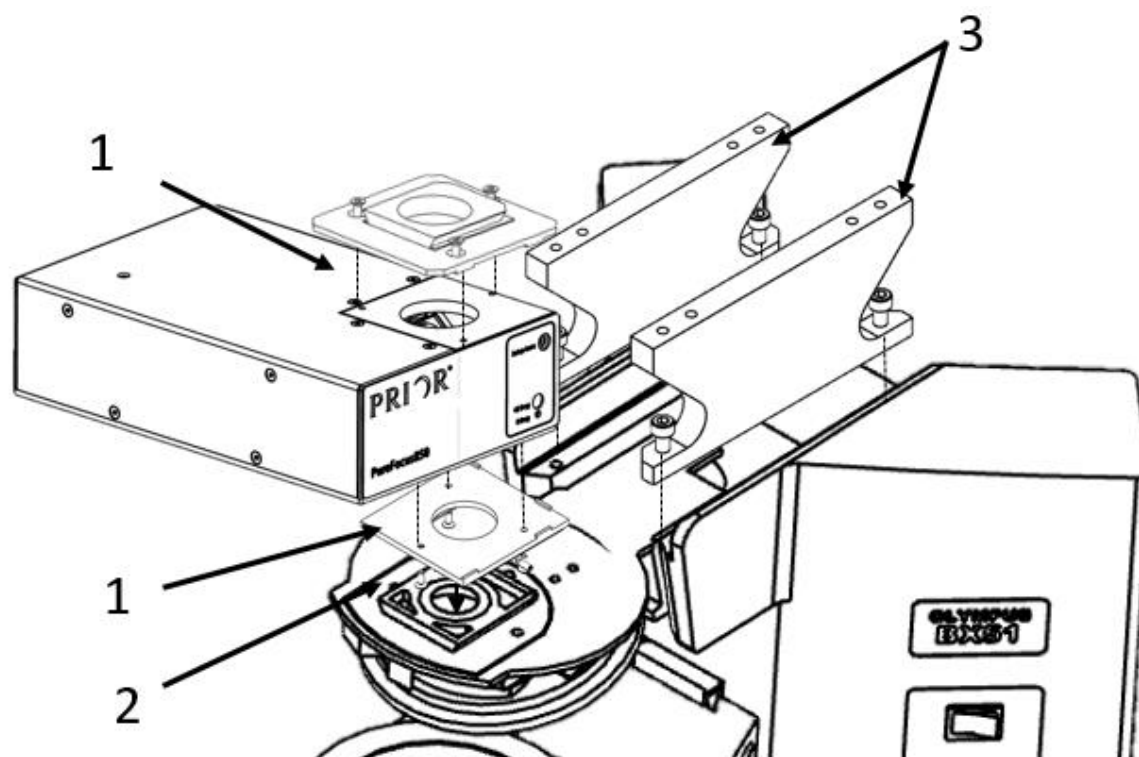

Figure 3: Attaching PF210 onto Olympus BX microscope with filter turret
1. Attach the lower dovetail flange and upper dovetail flange at the bottom of the PF850 Head and top of the PF850 head respectively with 3 x T235 screws and 3 x T173 screws using 2mm Allen key respectively (as shown in Fig 3).